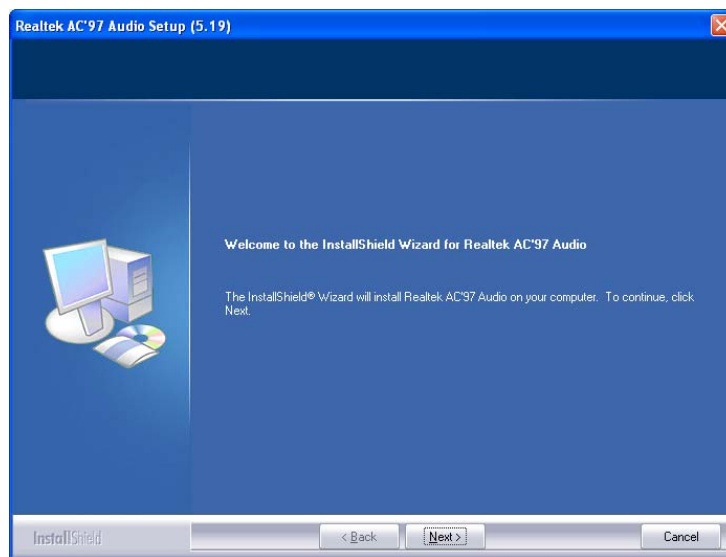

Figure 7-26: AC'97 Driver Installation Welcome Screen
Step 3: The AC'97 Driver Installation screen in **Figure 7-26** appears.